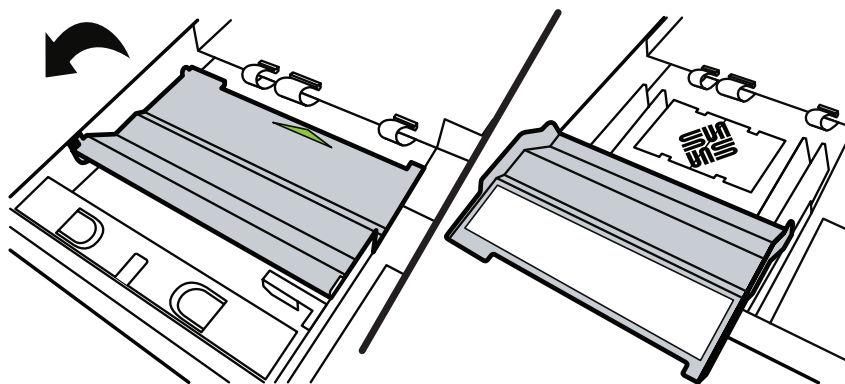

FIGURE 3-49 Flipping the DIMM/CPU Duct open
2. Flip the DIMM/CPU duct open. DIMMs are located underneath. See FIGURE 3-49.
1. Flip the DIMM/CPU duct open. DIMMs are located underneath. See FIGURE 3-49.